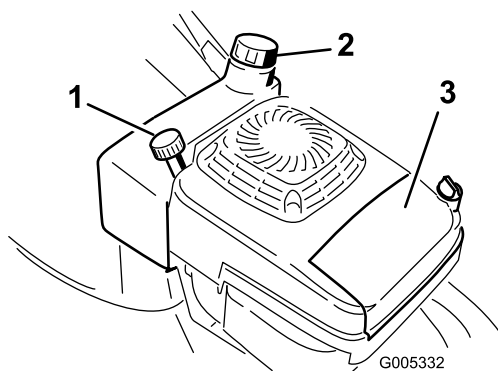

Figure 10
1. Clean around the fuel tank cap (Figure 10).